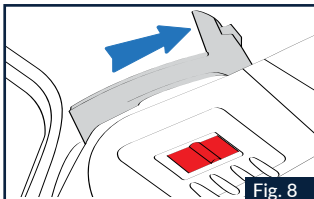

Fig. 8
2.1 Close the chin guard (if open) and check that the side mechanisms are in full opening position (Fig. 8).